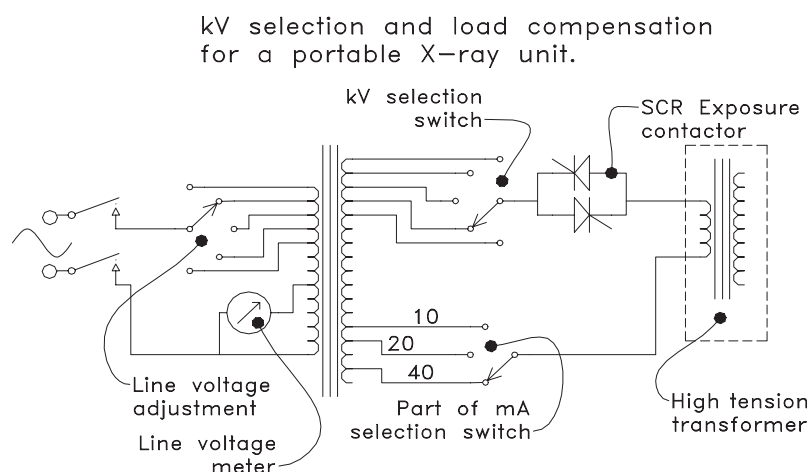

Fig E-25. High-voltage selection, and load compensation, for a portable X-ray generator
- In the example shown in Fig E-25, a simple method is shown to achieve load compensation. This method may be used for a portable, or mobile, X-ray generator.
A similar method to the above is a scale calibrated in kV, and a pointer moved by the kV selection knob. On selection of each mA station, a different kV scale is brought into view on the control panel. (The mA selection switch also selects the required load compensation, as shown in Fig E-25.)